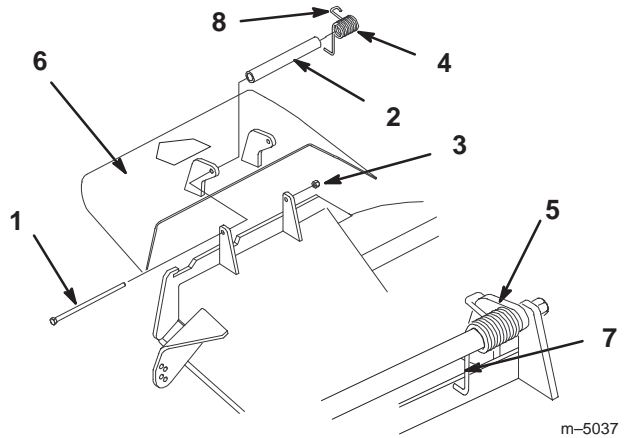

Figure 66
1. Remove the locknut, bolt, spring and spacer holding the deflector to the pivot brackets (Fig. 66). Remove damaged or worn grass deflector.
Note: Make sure the L end of spring is installed behind deck edge before installing the bolt as shown in figure 66.
3. Install bolt and nut. Place J hook end of spring around grass deflector (Fig. 66).